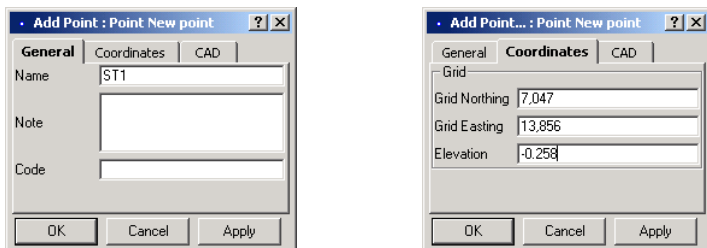

Figure D-3. Add Point – Enter Name and Coordinates
2. Enter the point's *Name* and *Coordinates*, and click **Ok** (Figure D-3).